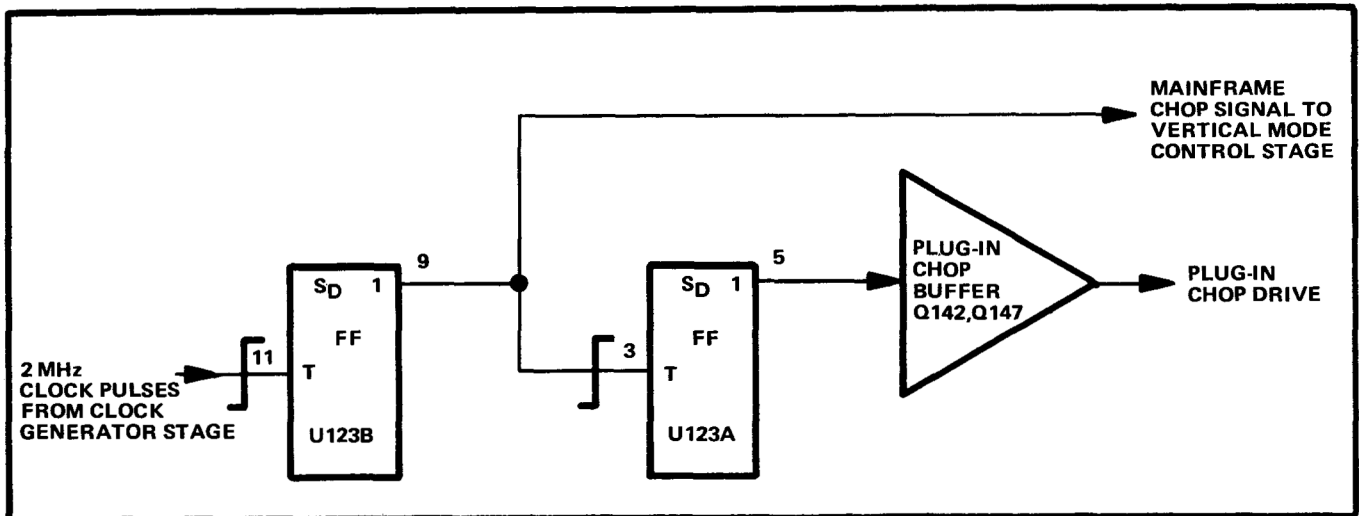

Fig. 3-6. Detailed Logic Diagram of Chop Counter stage.
**Chop Counter.** The Chop Counter stage produces the Mainframe Chop Signal and the Vertical Plug-in Chop Signal. The Clock pulses produced by the Clock Generator stage provides the timing signal for this stage. A logic diagram of the Chop Counter, identifying the inputs and outputs, is shown in Fig. 3-6.